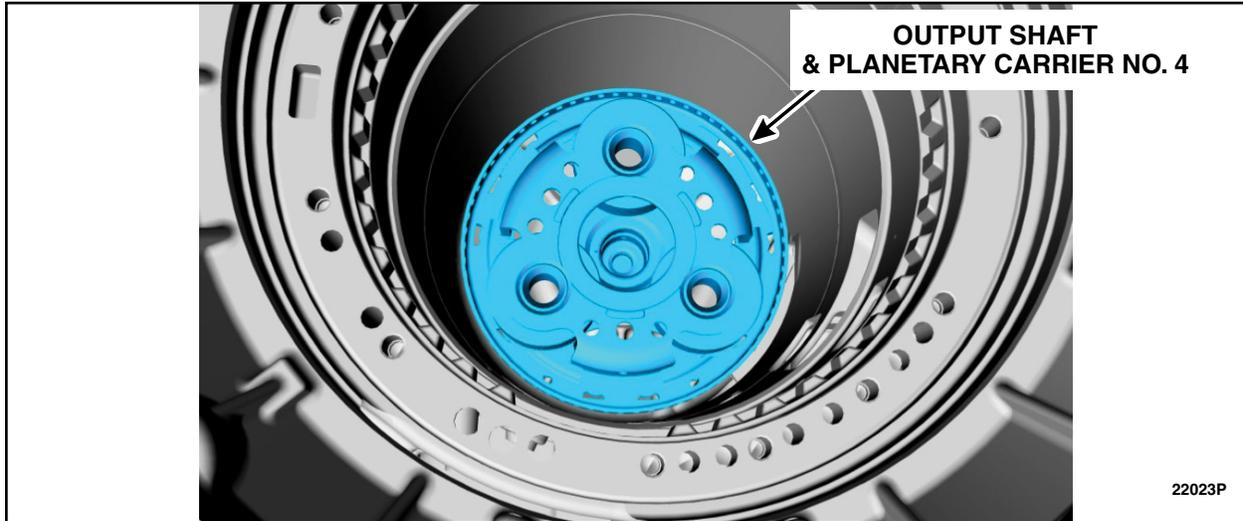

FIGURE 29
33. Rotate the manual lever to Neutral (N) and install the output shaft and planetary carrier assembly No. 4. See Figure 29.